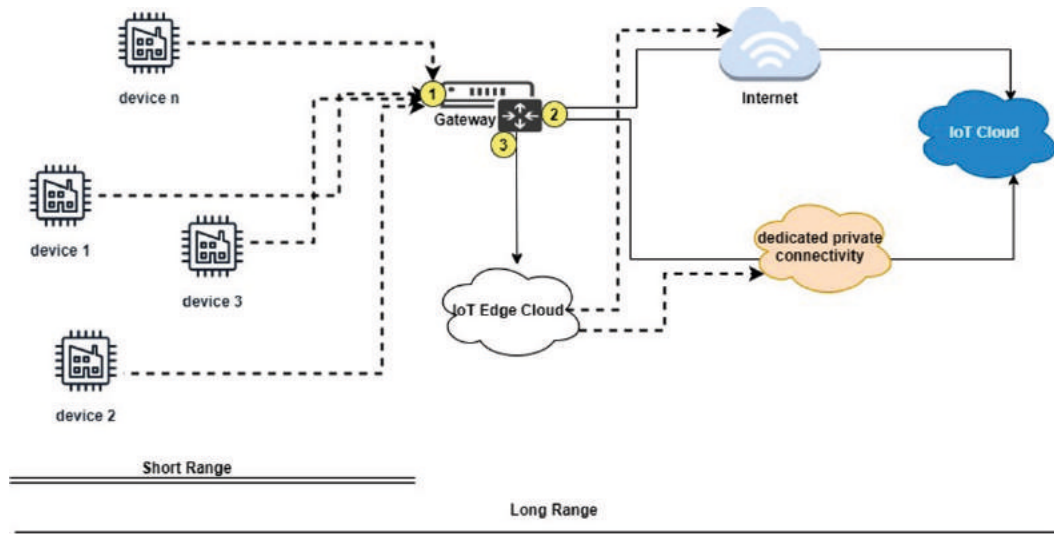

Figure 2.12 – IoT connectivity scenarios
As per *Figure 2.12*, we could have the following scenarios.
- **IoT gateway device:** You have one or more of these; they are plugged in or have a source of power through an electricity source or some other power technologies such as energy-harvesting technologies. The IoT gateway has internet connectivity (interface number 2 in *Figure 2.12*). Such internet connectivity could be done through fixed broadband—that is, Ethernet (wired connectivity)—or mobile broadband or cellular connectivity (wireless connectivity). The communication module of the IoT gateway device in the case of cellular connectivity usually contains a mobile **subscriber identity module (SIM)** compartment besides other normal wireless or radio communication module compartments or components such as a transceiver or an antenna.
You get the SIM from the mobile network operator in the proper form (large, mini, micro, and so on), as manufactured by the communication module chip. Mobile network operators usually have a dedicated IoT network that differs from the mobile consumer network, as IoT network characteristics are different. The gateway device also has another radio communication module (interface number **1** in *Figure 2.12*) that supports radio technology used in the endpoint IoT devices to communicate with the endpoint IoT devices from one end and communicate externally through the internet connectivity with the IoT cloud from the other end. The gateway could also have or support multiple different radio technologies if the endpoint IoT devices use different radio technologies.